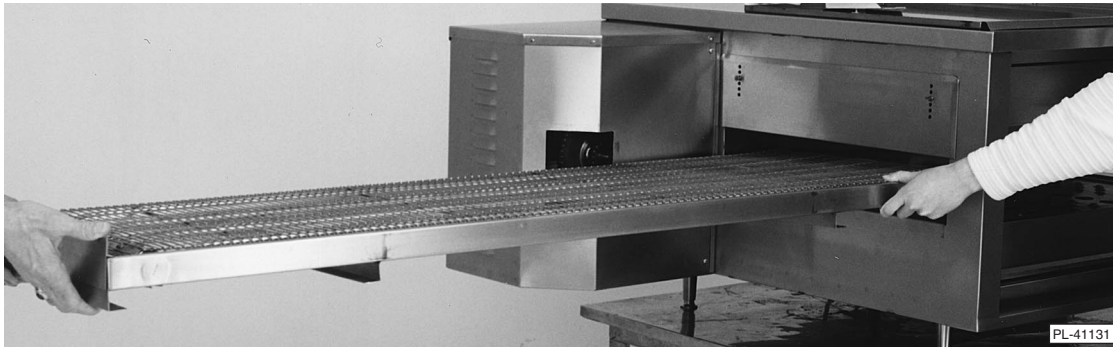

Fig. 7
- e. Pull the entire conveyor assembly from the oven (Fig. 7).